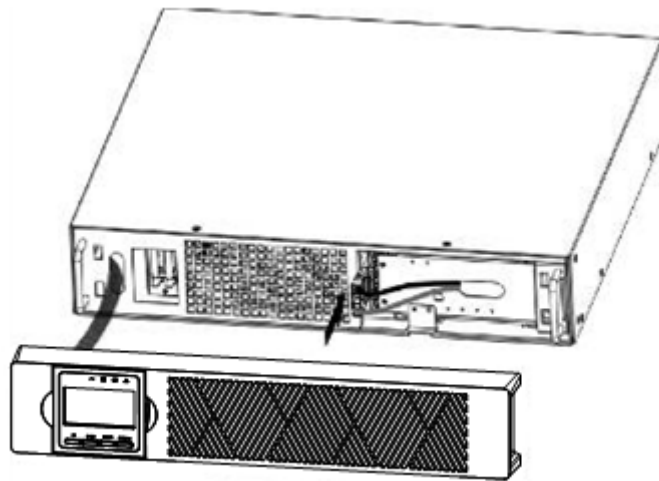

Figure 5: Connecting the UPS internal batteries
- b) Connect the internal battery connector (see Figure 5). Connect red to red, Press the connector tightly together to ensure a proper connection.